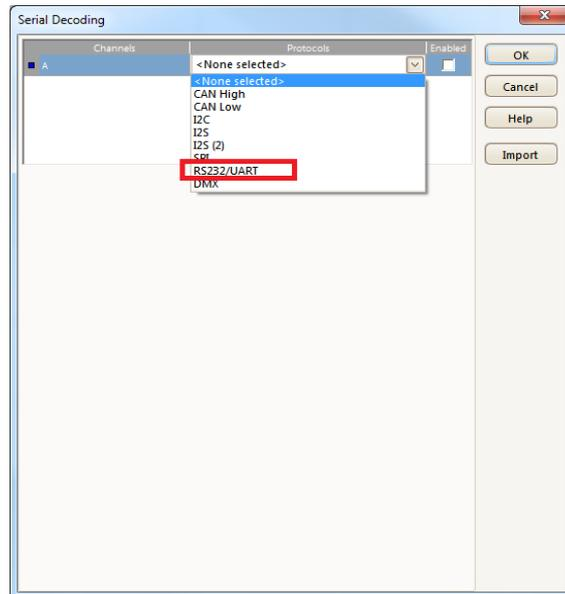

Fig 3
- The Protocol decoder(dll) should then be available in the Protocol List in *Fig 3*
- The Protocol decoder(xml) should then be available in the Protocol List in Fig 3
- **Protocol** : Gives a name to the protocol which is displayed in the Combo in Fig3
- o **DisplayName** - name that should be shown in the Serial Decoding Setup dialog in Fig 3
- **Name** : Gives a name to the protocol which is displayed in the Combo in Fig3
- o **DisplayName** : name that should be shown in the Serial Decoding Setup dialog in Fig 3